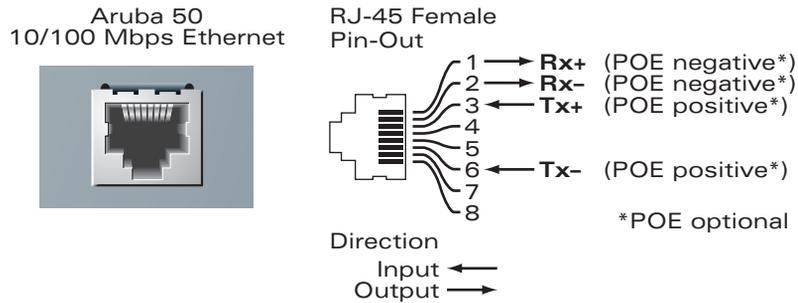

Figure A-2 Aruba 52 FE Port
The 10/100 Mbps Ethernet (FE) port is located on the back of the Aruba 52 and has an RJ-45 female connector. Port pin-outs are shown in Figure A-2: